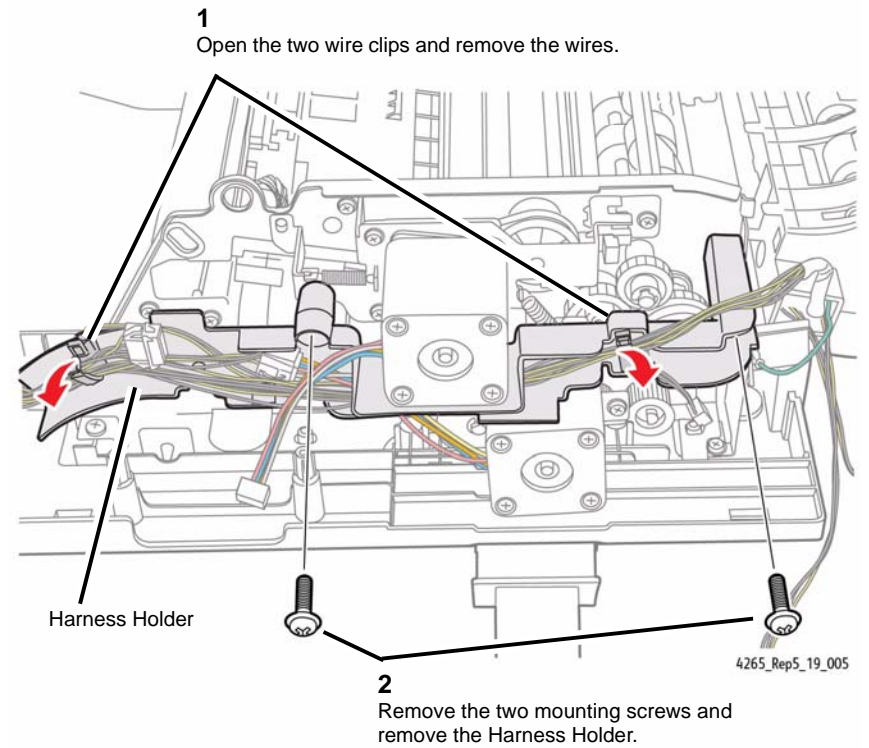

Figure 5 Removing the Harness Holder
8. Remove the Harness Holder (Figure 5)